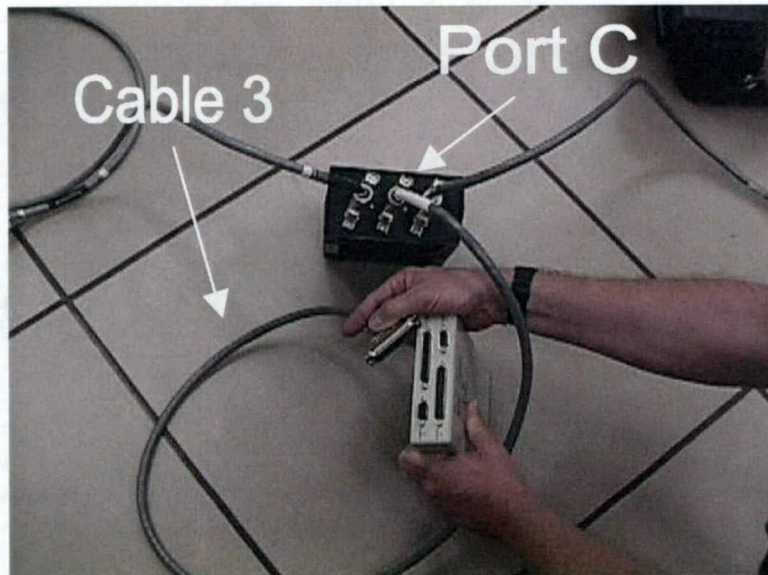

Figure 30. Cable 3
- c. Cable 3 contains a 37-pin male connector on each end (Figure 30). One 37-pin male connector plugs directly into Port C on the rear of the switchbox; the other end, a 37-pin male connector, connects directly into the KIV Red Port located on the rear of the KIV. Always handle the KIV by the sides to avoid accidental “zeroizing.”